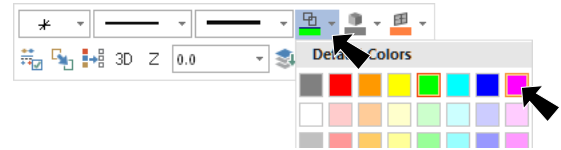

Fig. 10
Step 1. Sketch coupling magenta. Right click in the graphics window and on the Mini Toolbar click **Wireframe Color**  drop down arrow and select magenta, Fig. 10.